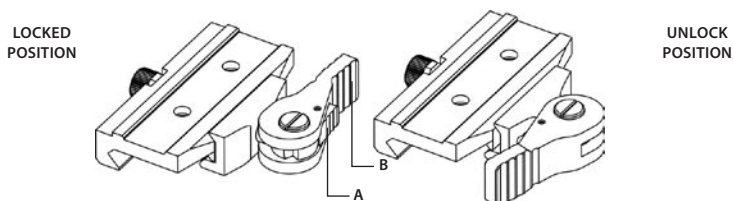

FIGURE 3-5. MOUNT. TOP VIEW
3. Unlock the clamping device of the CO-MR mount by pushing down on the lever holder (B, see Figure 3-5) and unlocking the cam lever (A).
5. Affix the CO-MR to the rail by locking the cam lever (A, see Figure 3-5).